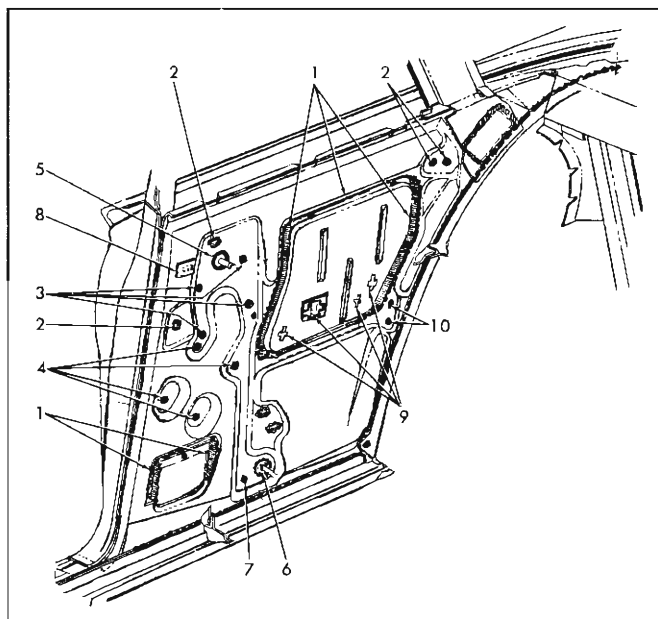

Fig. 22—Quarter Inner Panel Sealing
For "11" Styles - See Figure 22
**Items 9 and 10 for "11" Styles only (see fig. 22)**